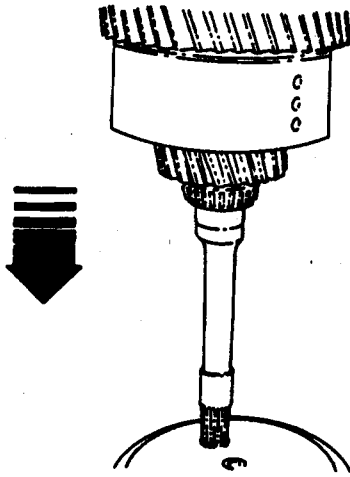

Figure 36.
- Loosen the low clutch end bearing (53) by tapping the assembly on a piece of aluminum. See Figure 36. Remove bearing using pullers.